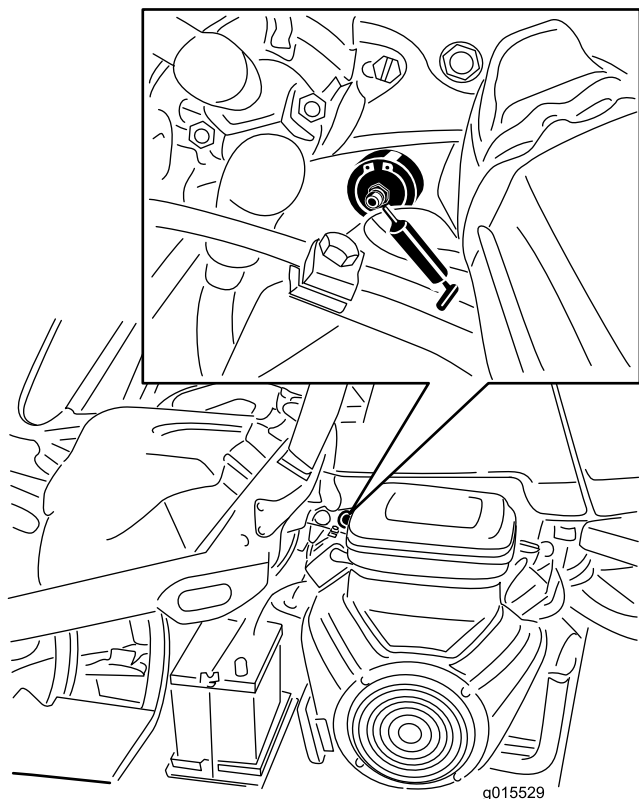

Figure 40
1. Wipe the grease fitting clean so foreign matter cannot be forced into the bearing or bushing (Figure 40).